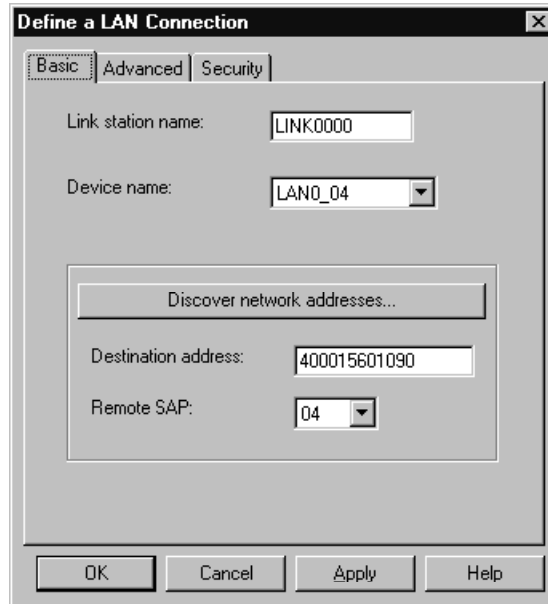

Figure 100. Define a LAN connection: basic page
- 3 On the Basic page, use the values that are shown in Figure 100 for the following fields: